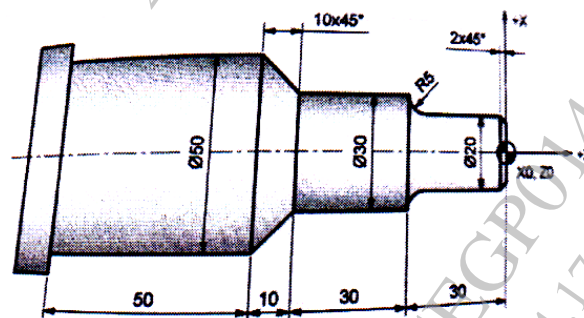

Fig. 4 Q. No.5 (b)
b) Write NC Part program shown in Fig. 4 and Assume suitable data [12]